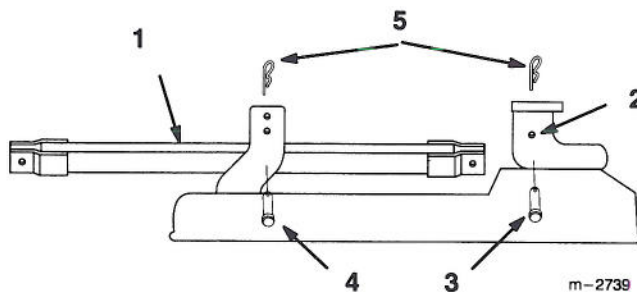

**Figure 1**
1. Install the deflector mounts onto the pivot brackets with the (2) 3/8–3-3/4" (95 mm) bolts, (2) springs and (2) 3/8" locknuts. Make sure the straight ends of the springs are positioned between the deflector mounts and the grass deflector (Fig. 1).
2. Tighten the locknuts until they contact the pivot brackets (Fig. 1).